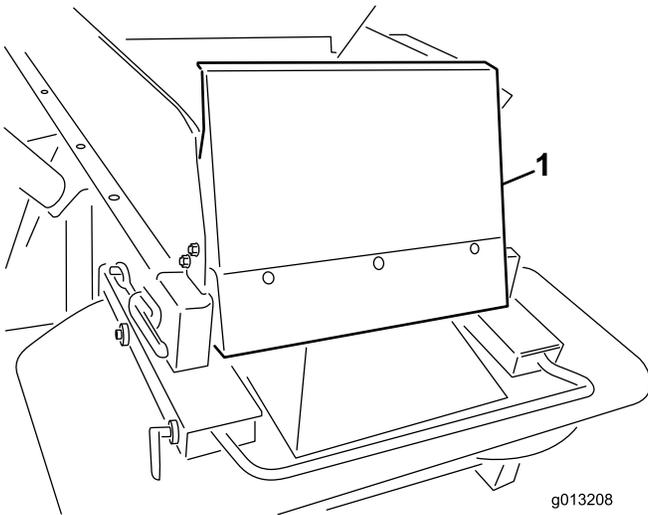

Figure 7
6. Install the hopper guard using the supplied 1/4 x 5/8 inch button head bolts and nylon lock nuts (Figure 7).